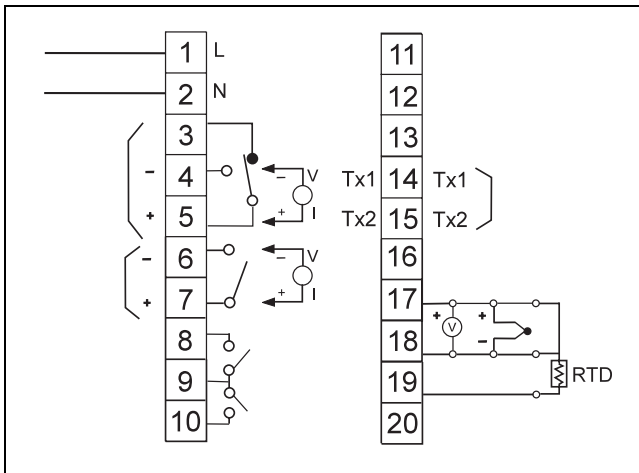

Fig. 2 Wiring diagram
- Connect sensors, control and alarm outputs in accordance with fig. 2.
(see fig. 2)
2. Connect the power supply as illustrated in fig. 2.